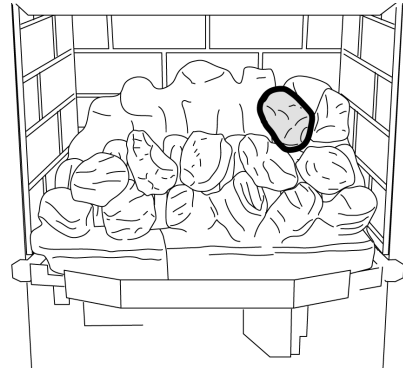

Figure 13. Second row "Coal H"
17. Hold coal 'H' upright with the arrow pointing to the top. Locate coal 'H' as shown in figure 13